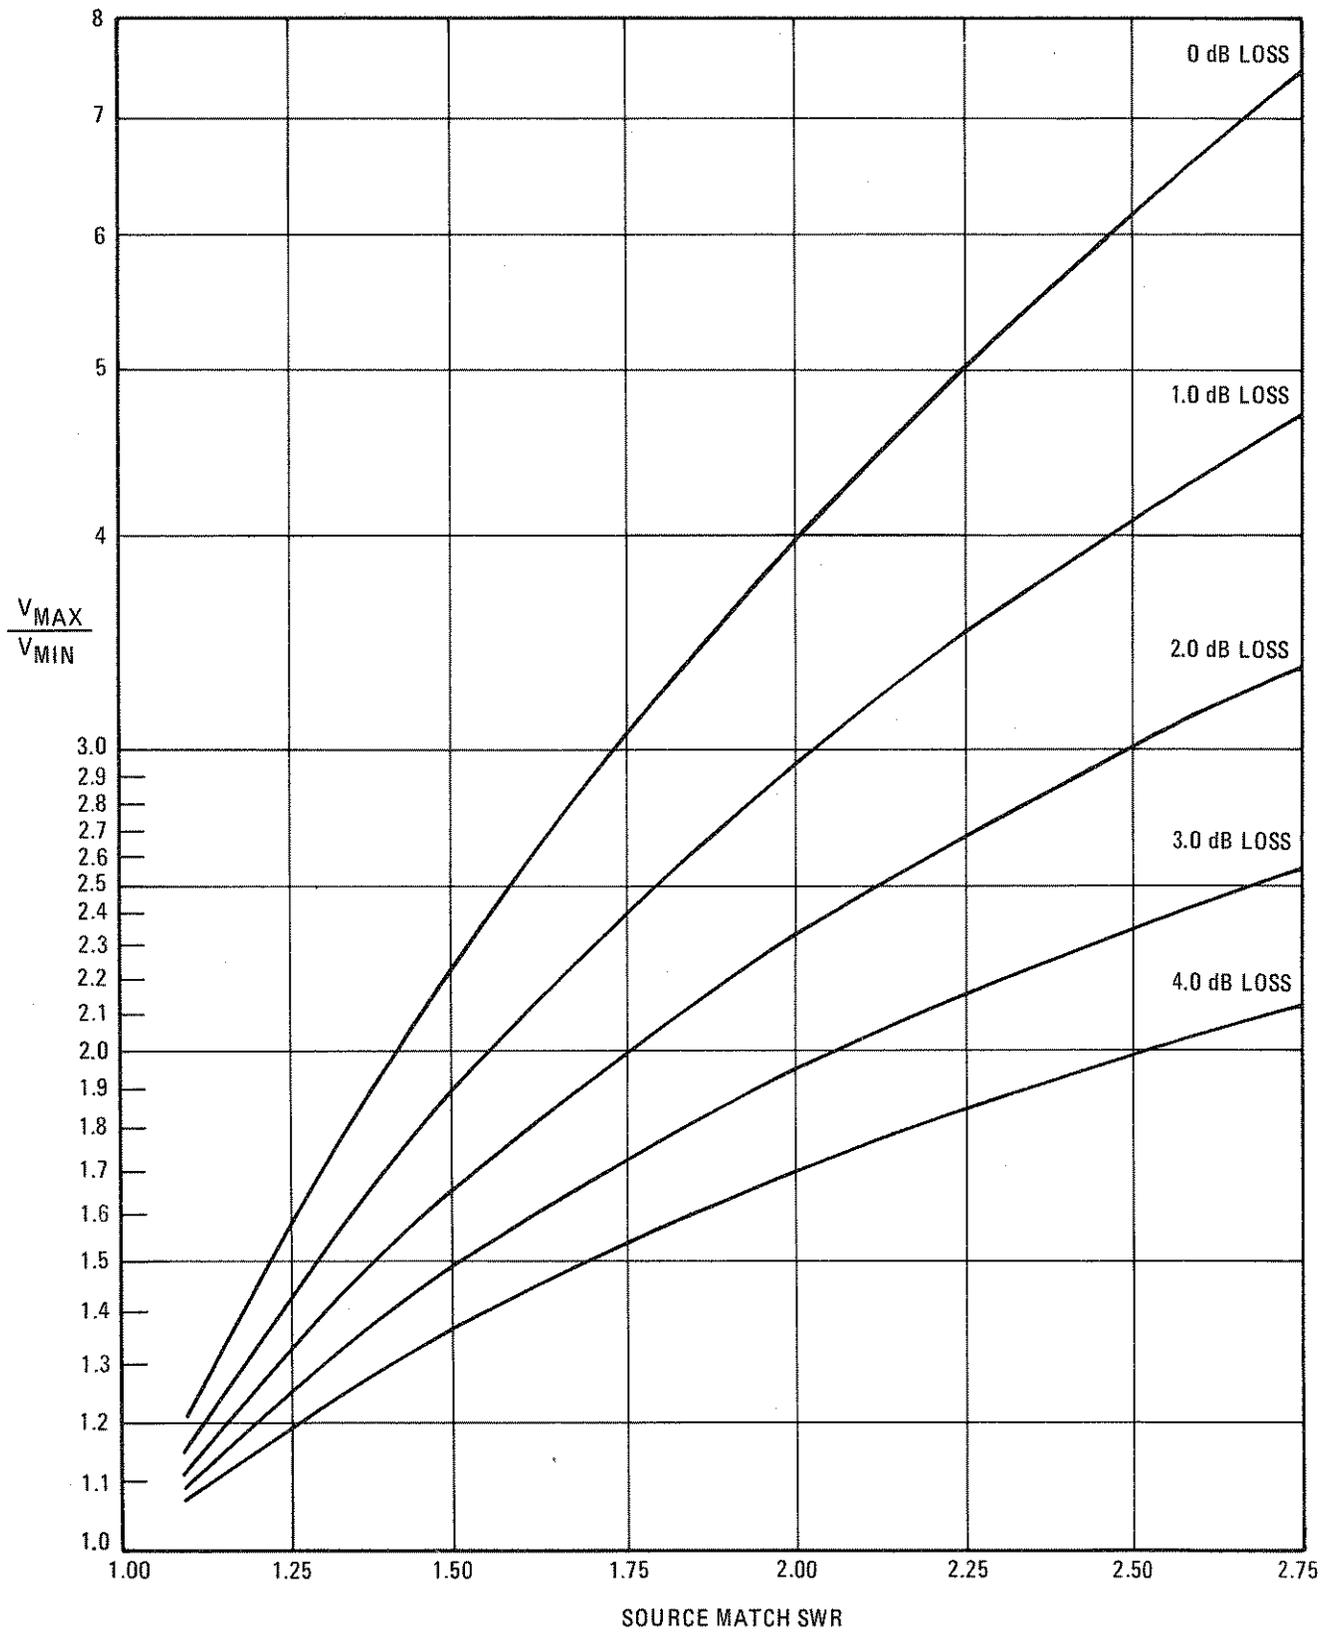

Figure 4-14. Conversion of Oscilloscope Trace to Source Match SWR
6. Convert the V_{MAX}/V_{MIN} ratio noted in step 4 into source match SWR, using Figure 4-14 and the cable loss calculated in step 5. The SWR should be less than 1.9 (2.0 for Option 002).
11. Convert the greatest **V MAX** and **V MIN** ratio noted in step 10 into source match SWR using the 0 dB **LOSS** line in Figure 4-14. The SWR should be less than 1.9 (2.0 for Option 002).
16. Convert the greatest **V MAX** and **V MIN** ratio noted in step 15 into source match SWR using Figure 4-14 on the 0 dB loss line. Record SWR on test record step 16.